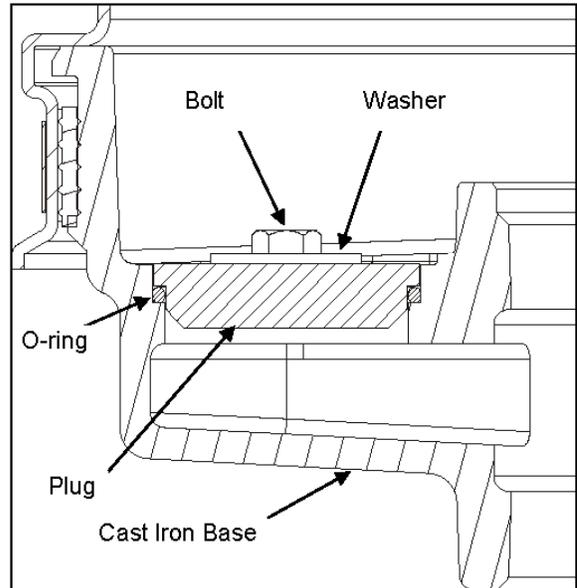

Figure 2 - Cast Iron Base with Plug
5. Secure the 1DP by installing the provided retaining washer and nuts or bolts. Composite base spill containers use nuts to secure the drain plug (see Figure 1) and cast iron base models use bolts (see Figure 2). Tighten the nuts / bolts to a torque of 11.5 ft-lbs min. to 13.5 ft-lbs max .